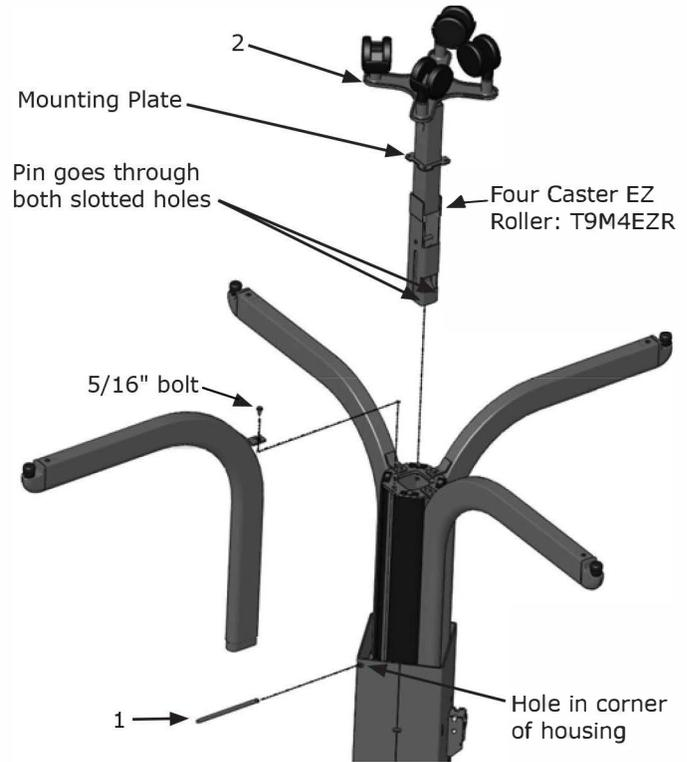

Figure 5
3. Locate the corner of the housing with the hole in it (Figure 5, page 4).
4. Place Four Caster EZ Roller assembly (Item 2, Figure 5, page 4) in square hole as shown in Figure 5.
5. Insert pin (Item 1, Figure 5, page 4) through the hole in corner of housing and through slotted holes in Four Caster EZ Roller assembly. The pin must be centered in the column housing.
- Locate the corner of the housing with the hole in it (Figure 5). If legs are already assembled to the column, using 1/2" socket and driver, remove the 5/16" screw that holds the leg in place.
- Place Four Caster EZ Roller assembly (Item 2) in square hole as shown in Figure 5.